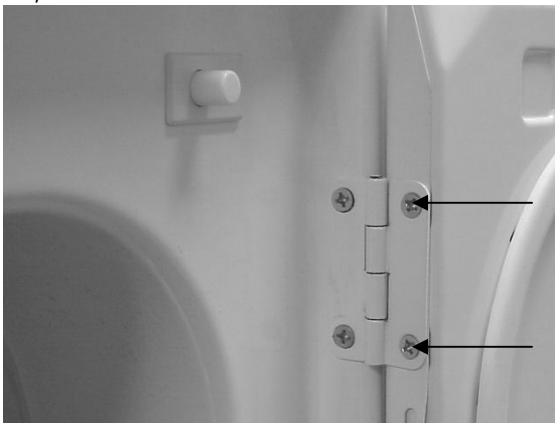

Figure 3
3. Place door on a towel or pad handle side down to prevent any possible scratches to door. Remove all remaining four (4) screws between hinge and door. (Figure 3)